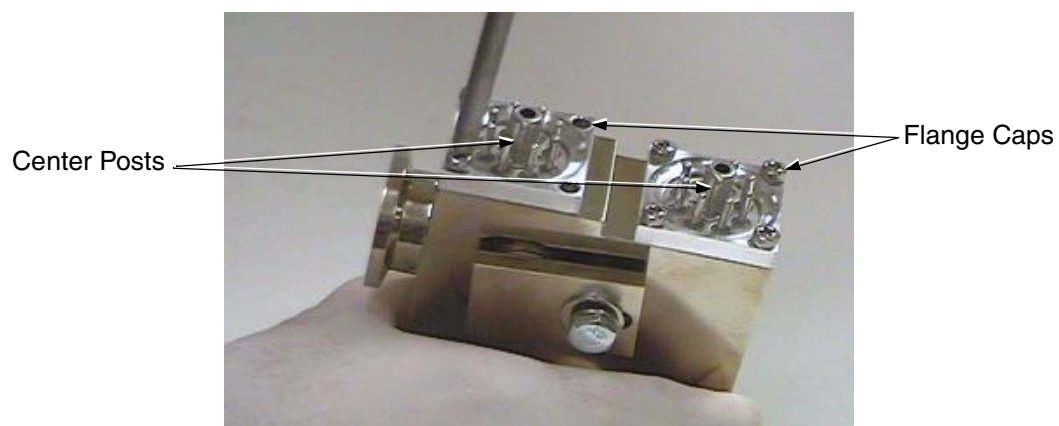

Figure 3-11 Removing Flange Cap Screws
7. Remove the 4 screws that hold the ion source flange cap (Figure 3-11).